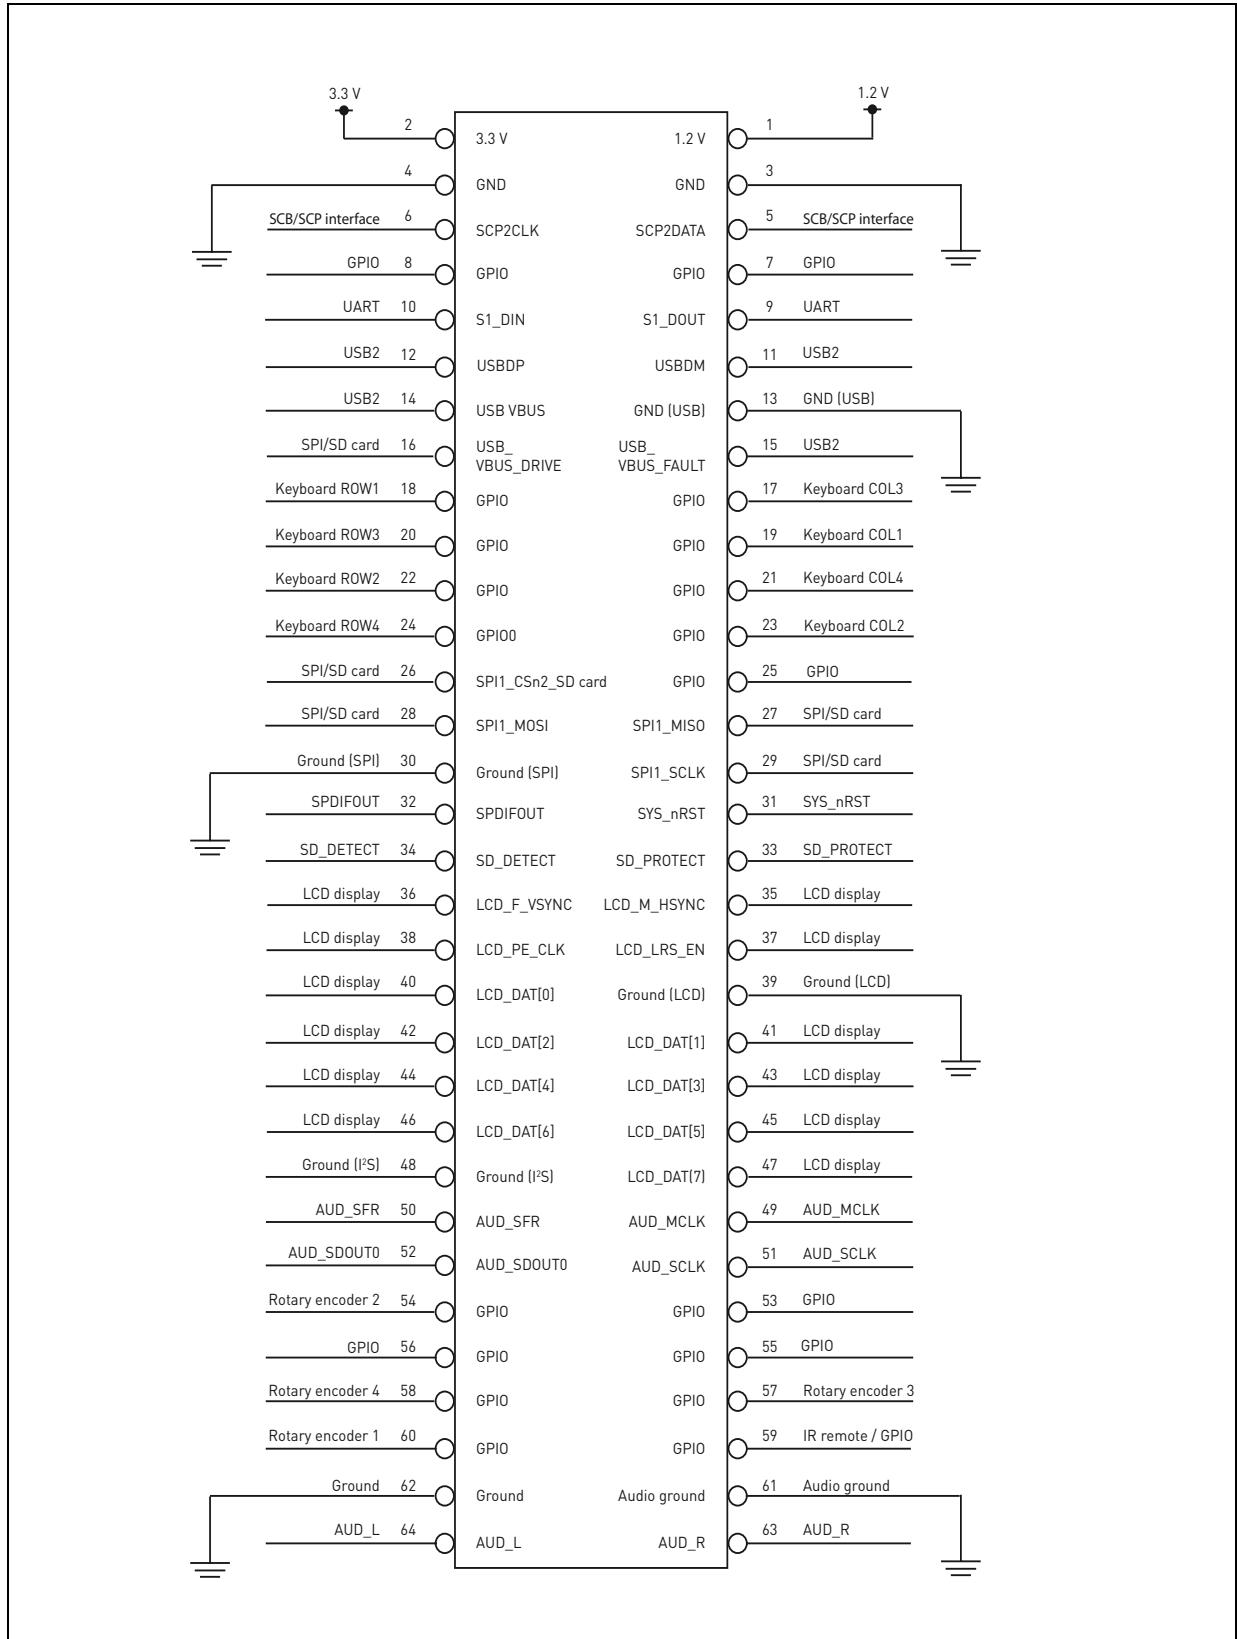

Figure 2: Venice pin assignments
*Figure 2* shows possible signals that can exist on the Venice 6 pins.
Venice 6 supports a number of hardware interfaces. The characteristics of these interfaces are detailed below. *Figure 2* shows the pin assignments on the main connector, J1.